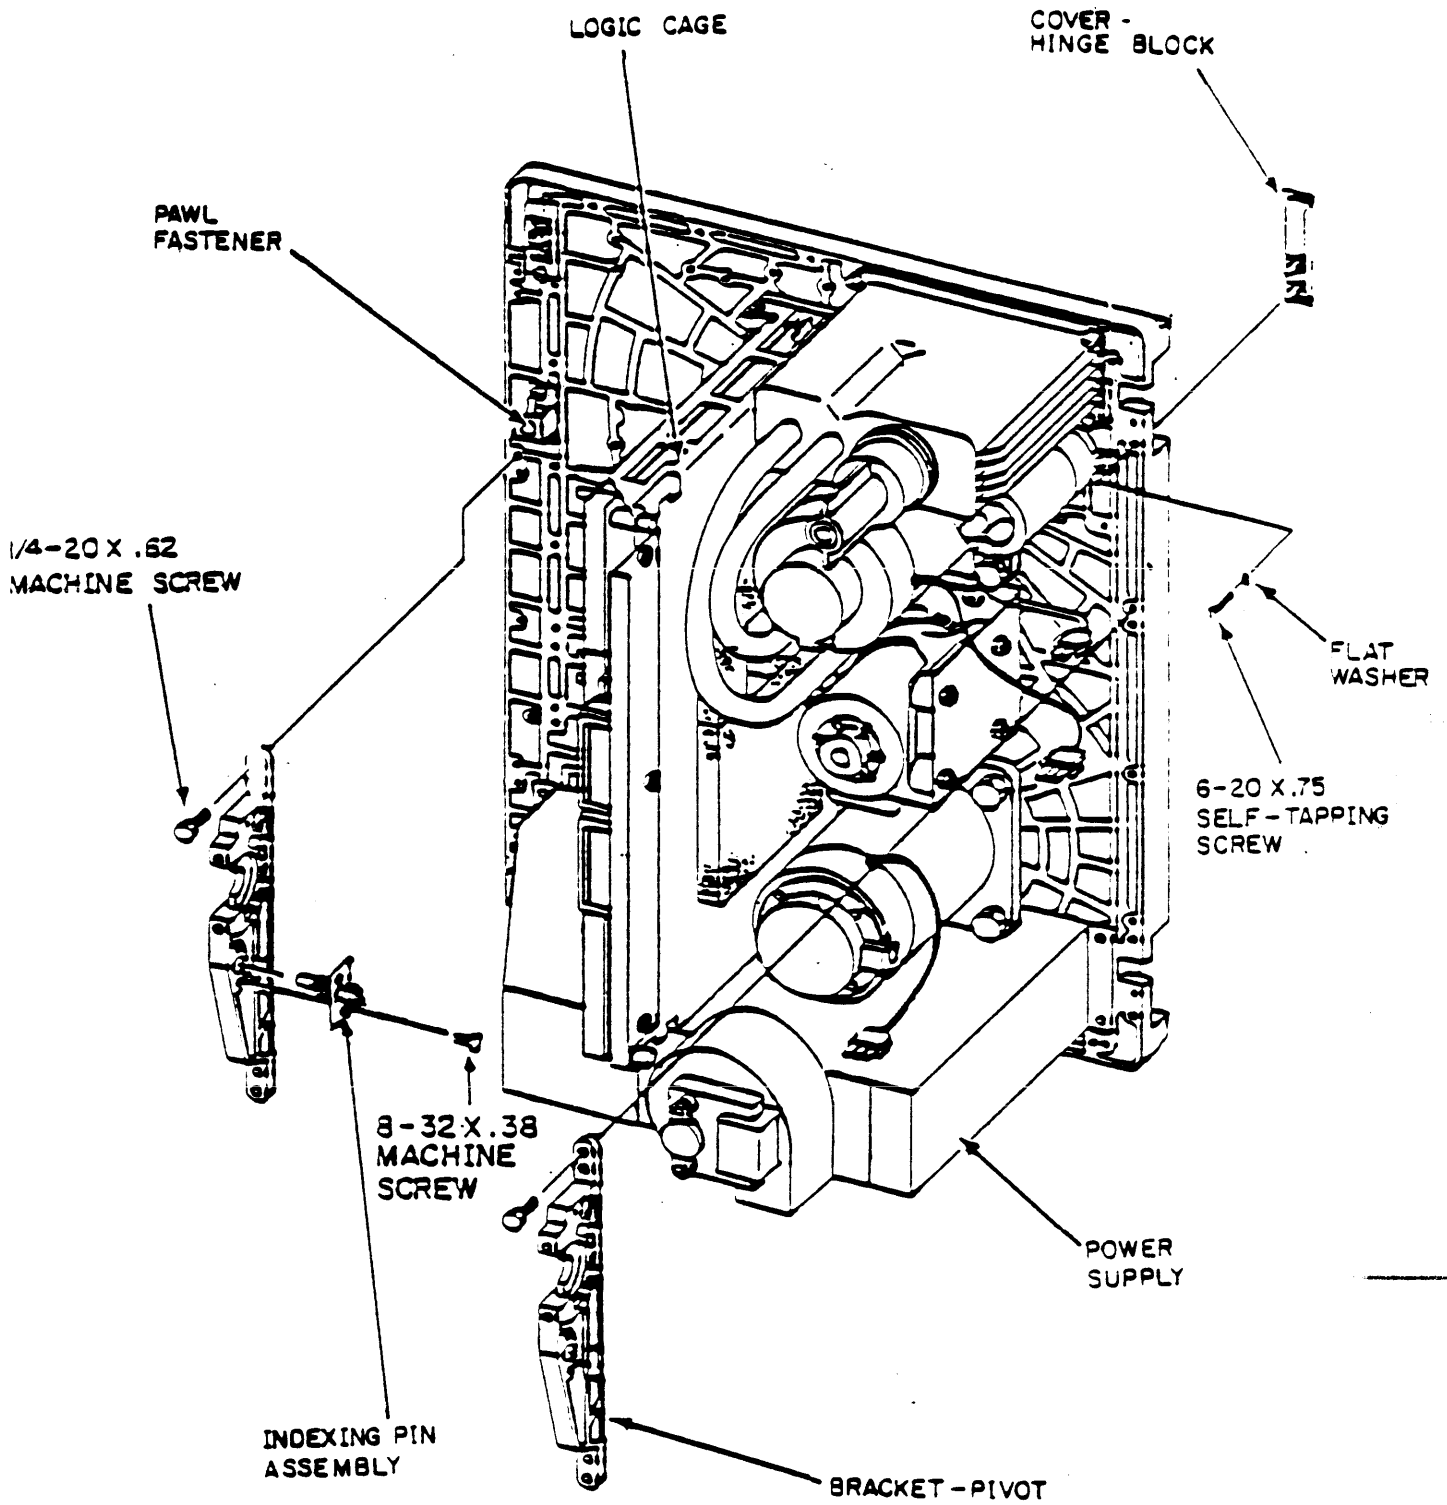
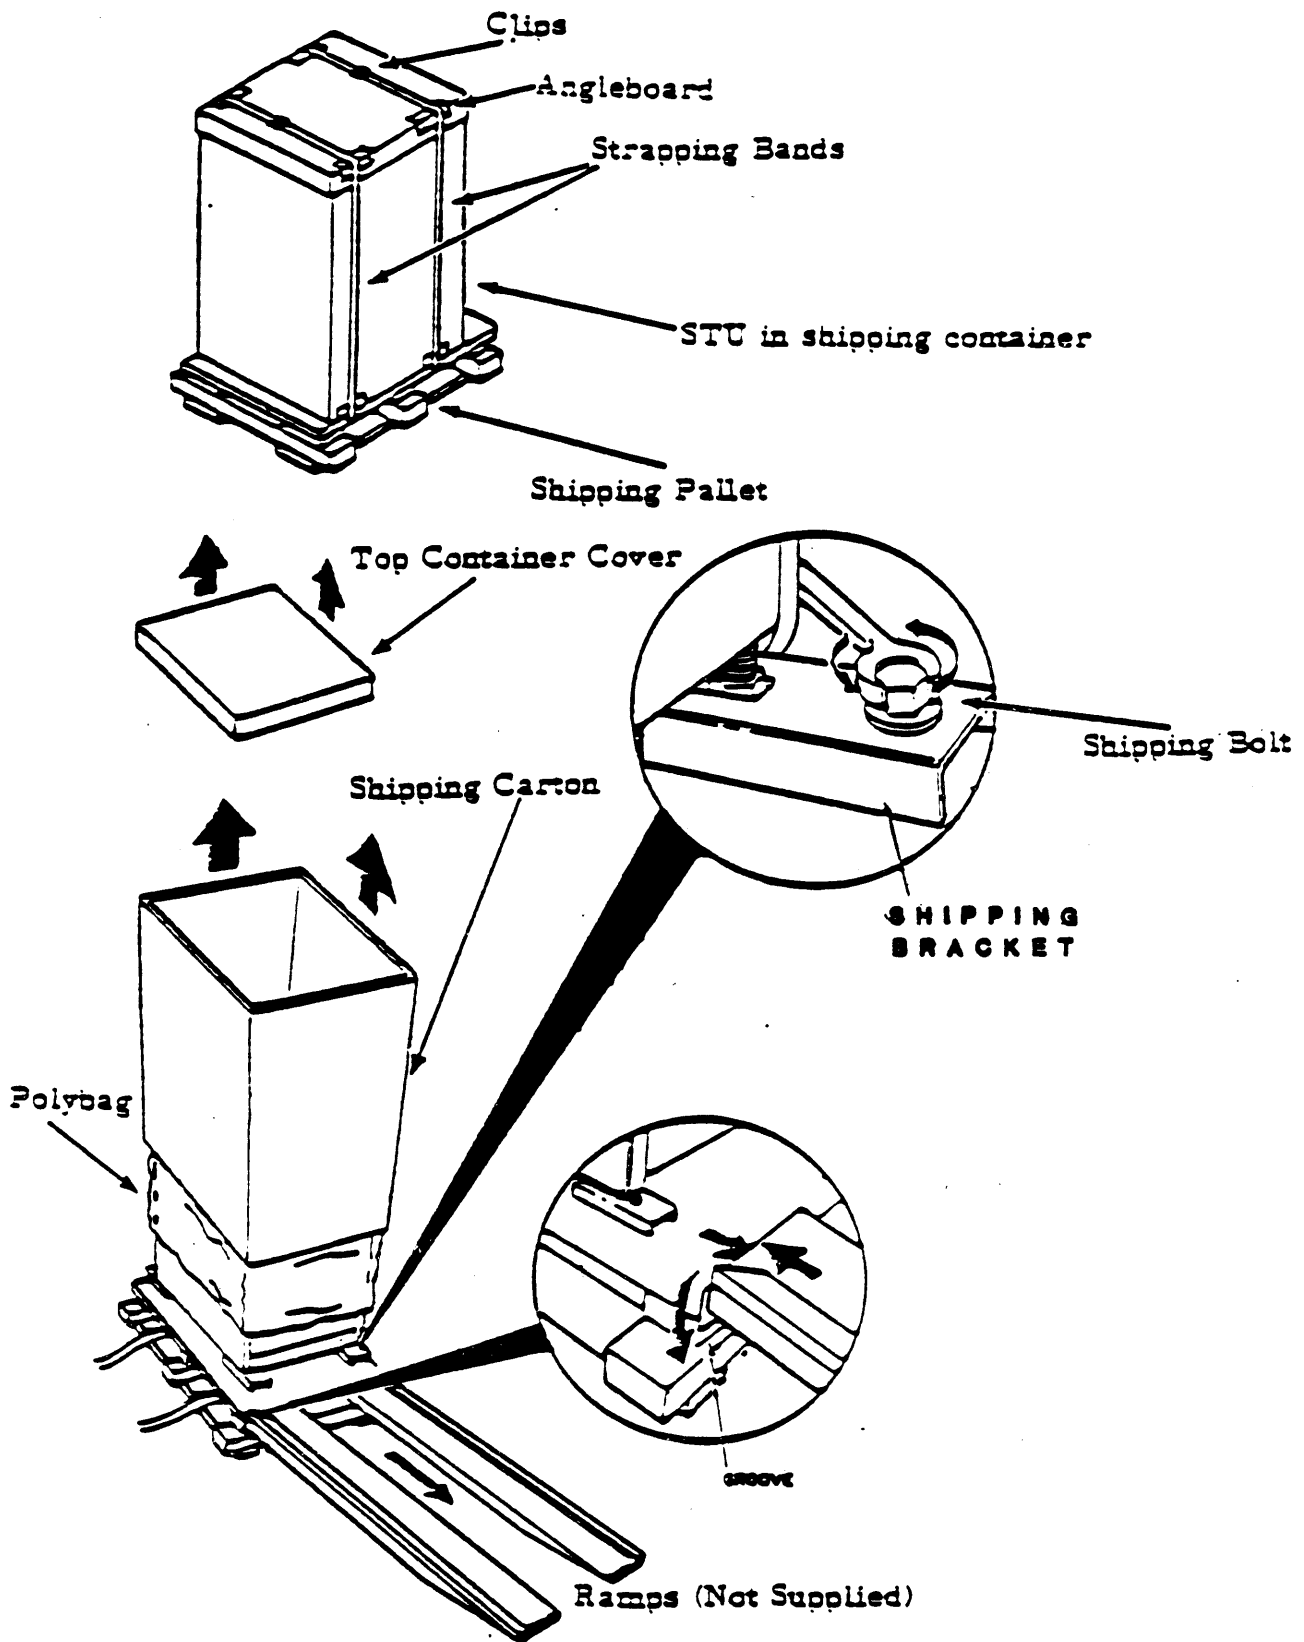
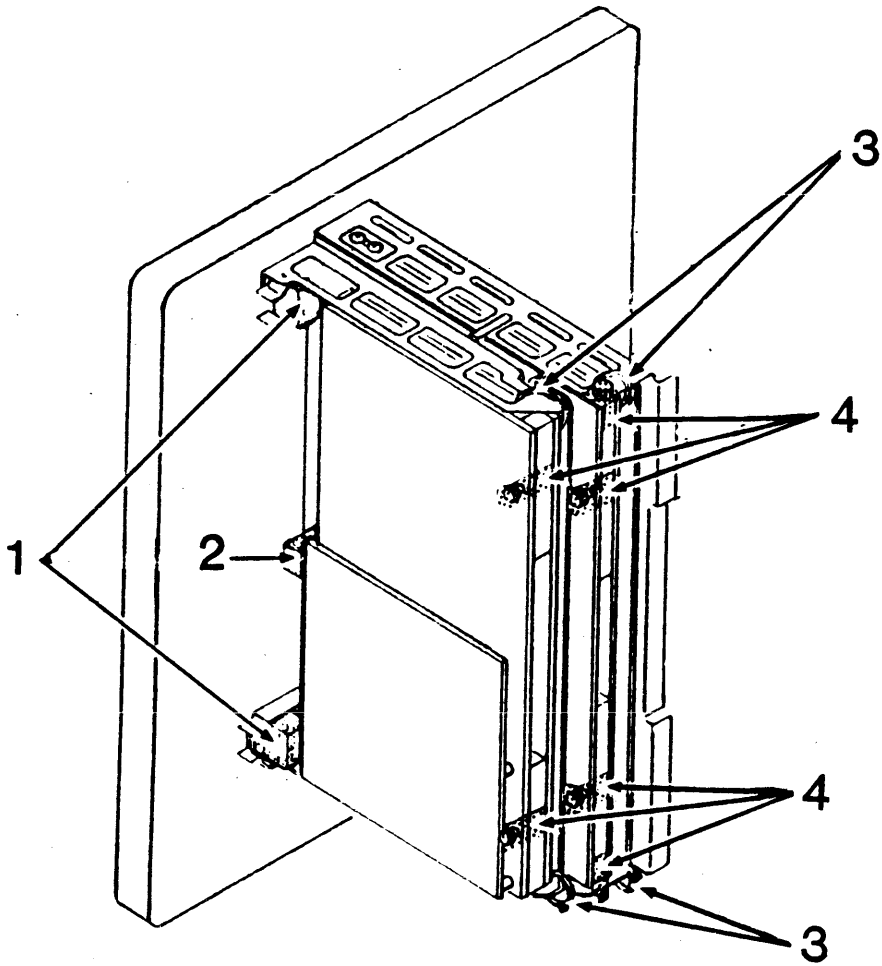

Figure 3-16. Installation Hardware - STU
Figure 3-17. In Cabinet STU Unpacking
Figure 3-21. STU Shipping Preparation
The following procedures, steps 1 thru 15, may be referenced to Figures 3-16 and 3-17. Figure 3-16 illustrates the installation hardware mounting locations on the cabinet while Figure 3-17 illustrates the installation hardware mounting locations on the STU.
4. Turn STU over so that unit is in a vertical position resting on the power supply assembly (Figure 3-16).
2. All shipping materials should be retained in case of future unit reshipment. Steps 3 thru 12 may be referenced to figure 3-17.
In the following packaging procedure, refer to figures 3-17 and 3-21. The part location numbers in figure 3-21 match the numbers (in parentheses) preceding the part number.